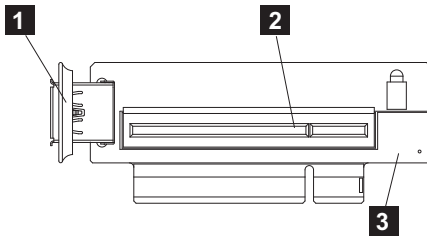

Figure 231. USB riser-card assembly (SAN Volume Controller 2145-CF8 shown)
7. Remove the USB service-controller cable from the USB connection (**1** in Figure 231) on the disk-controller and USB riser-card assembly (**3**), as described in “Removing and replacing the USB service controller cable: 2145-CG8 or 2145-CF8” on page 121.